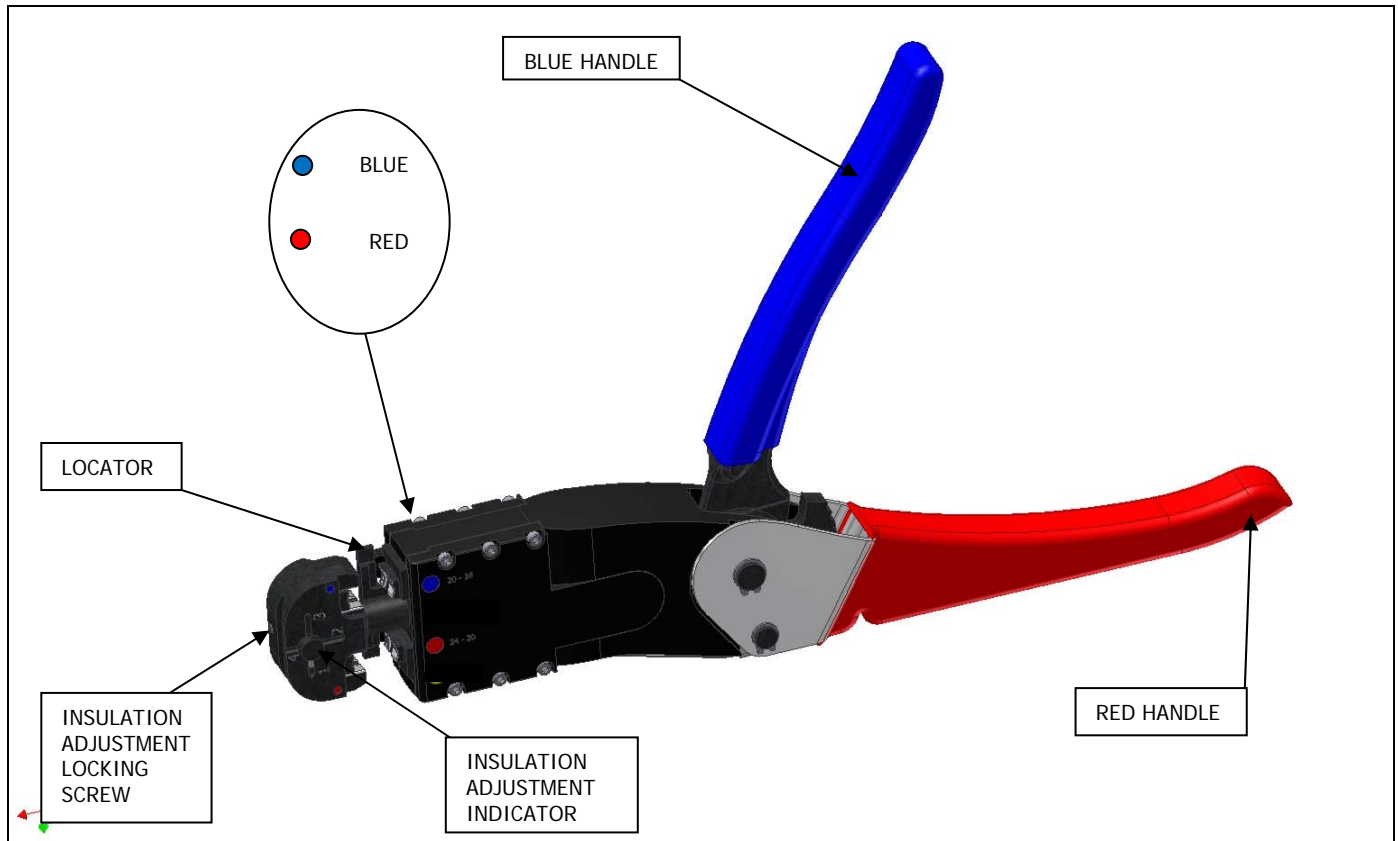

Figure 1
This datasheet explains the use of Astro's "Crimp Tool for Terminals" AMT4001 (M22520/40-01) (See Figure 1). This tool is intended to crimp
(See Figure 1) To set the Insulation Crimp Height:
1. Loosen the insulation adjustment locking screw, and turn the indicator to position 4.(See Figure 1)